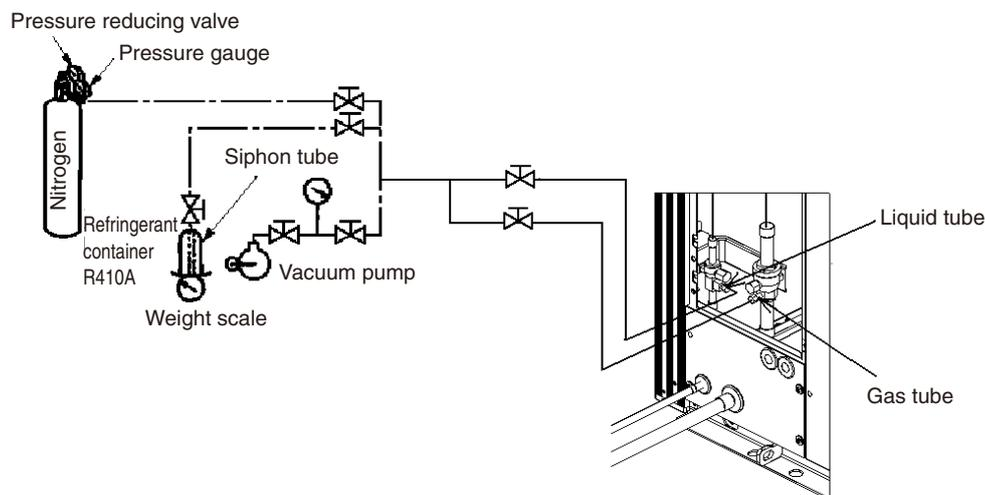

Figure 5
- (5) Tubing airtightness test and vacuum application <not detected 3WAY Multi>
- Connect the manifold gauge to both service ports - on the wide tube side and narrow tube size. Then connect the nitrogen tank, vacuum pump, and other items as shown in Fig. 5.